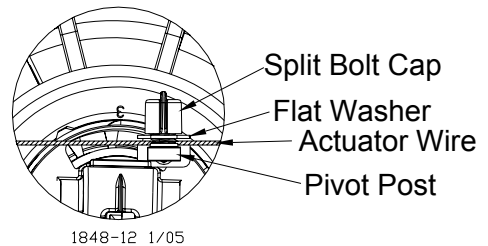

Figure 62. 13057 clamp installed
- Using the first pan away from the actuator, push the inner cone to the open position and clamp the wire with a flat washer and a split bolt cap to the pivot post, **see figure 62.**
2. Start at the hopper end of the line and form a loop around the anti-roost bracket. For best results, make a double loop around the anti-roost insulator in the center groove of the insulator and fasten with a 1/16" cable clamp as shown in **Figure 62**.